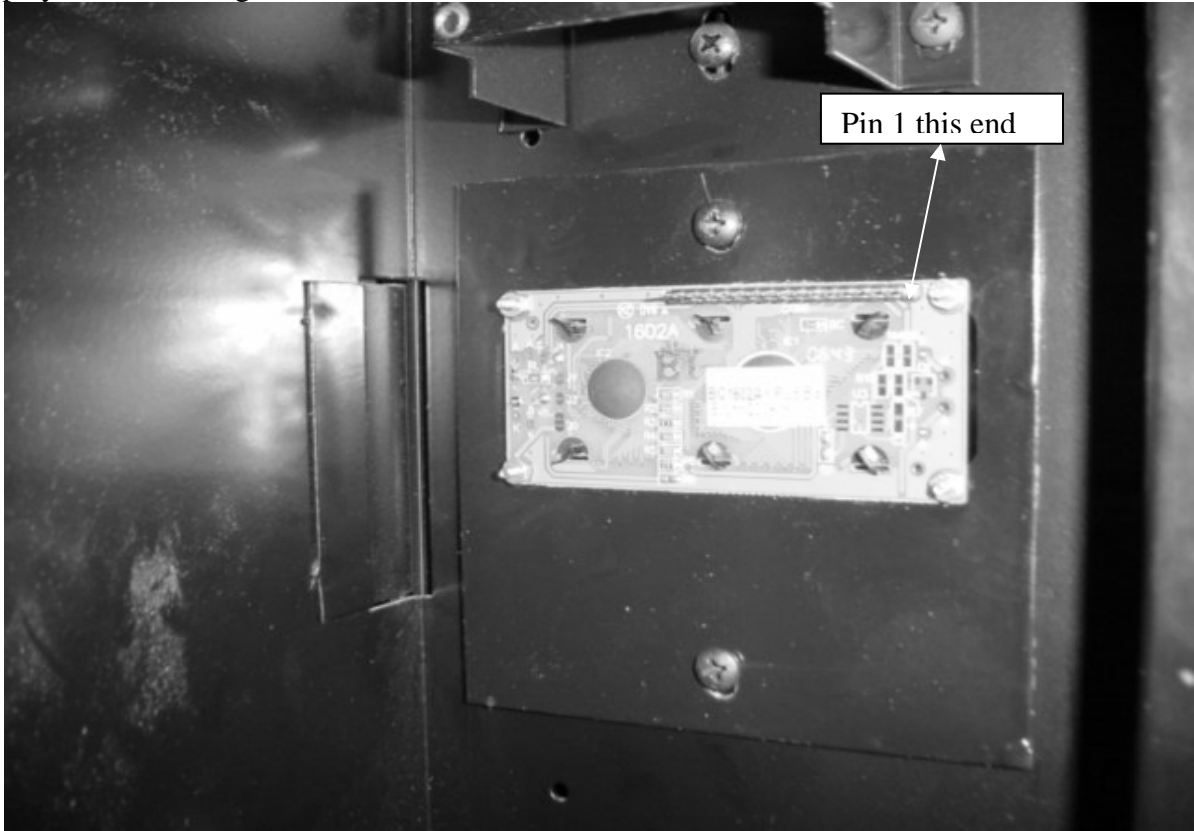

Figure 13
10. Install the new Polyvend display assembly (05-1402-00) using the 2 screws from the original display as show in Figure 13.